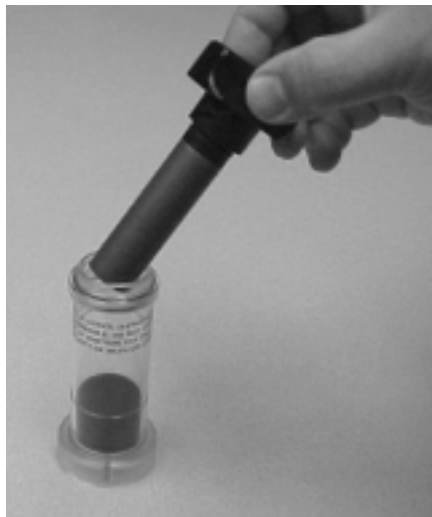

Figure 2-5: Insert Alcohol Cartridge into Fill Capsule
5. *Make certain the alcohol cartridge is clean!* Insert the alcohol cartridge into the alcohol fill capsule by aligning the groove with the pin and turning $\frac{1}{8}$ turn (clockwise) until it locks into place (Figure 2-5).